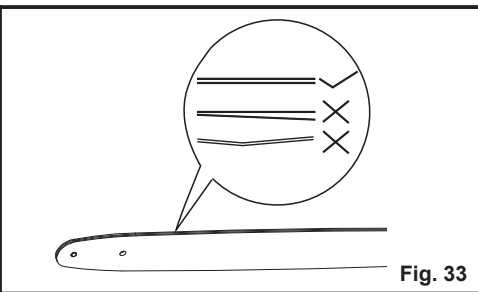

Fig. 33
- Check the guide bar 'rail' for wear: Hold a ruler (straight edge) against the side of the guide bar and 'cutter side plates'. If there is no gap between the ruler and guide bar, the guide bar 'rail' is normal. If there is a gap (ruler flush against the side of the guide bar) the guide bar 'rail' is worn and needs to be replaced with a new one of the same type (Fig. 33).